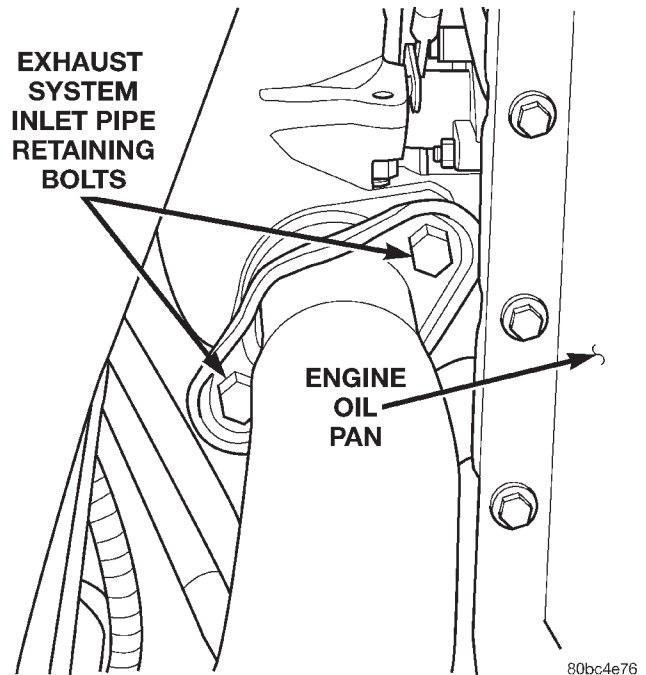

Fig. 7 Exhaust System Inlet Pipe
(13) Remove the exhaust system inlet pipe retaining bolts from the turbocharger (Fig. 7).
(14) Remove the nut retaining the wire harnesses on the left engine mount.
(15) Lower the vehicle on the hoist.
(16) Remove the right and left headlamp assemblies from the vehicle. Refer to Group 8L, Lamps for the procedure.
(17) Remove the front fascia. Refer to Group 13, Frame and Bumpers for the procedure.
(18) Disconnect the ambient temperature sensor and unclip the wire harness from the headlamp module mounting assembly.
(19) Disconnect the right and left headlamp module wire harnesses at the 10-way connectors. Located just above the front bumper to the right and left of the A/C condenser.
(20) Remove the headlamp module mounting (HMM) assembly. Refer to Group 23, Body for the procedure.